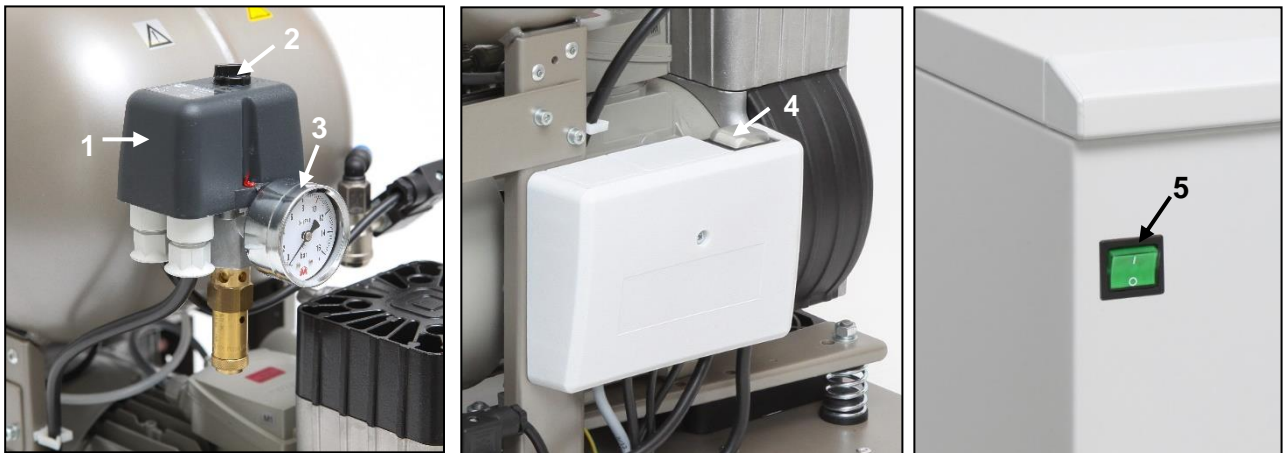

Fig. 9
- Check the position of the breaker switch; it should be in the "I" position; if the switch remains in the "0" position, turn the breaker switch (4) to the "I" position. (Fig. 9)
- For DK50-10 S/M (8-10 bar) compressors, turn on the switch (5) on the front of the cabinet to the "I" position and the green indicator indicates the operational status of the device. (Fig. 9)
(Fig. 9)
(Fig.9)